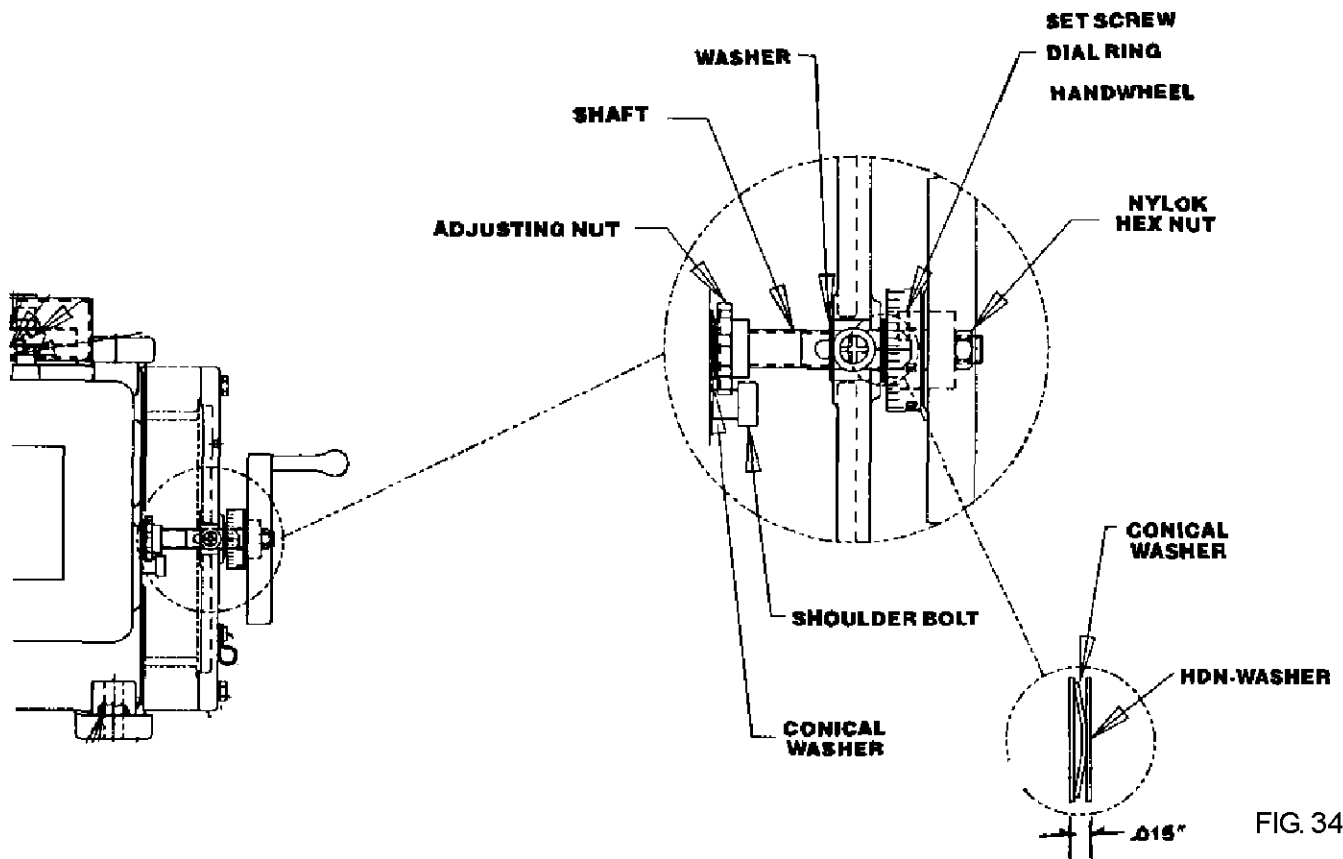

FIG. 34
- C. Check for .015 in. [.4 mm] gap between the wave washer and flat washer. See insert to FIG. 34.